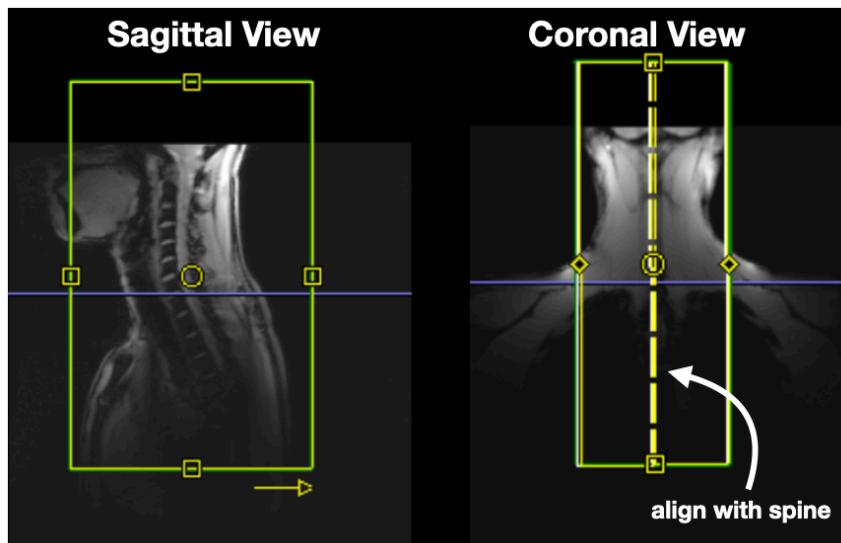

Figure 3. Positioning of FOV for turboFLASH scans.
- Position the Field of View (FOV) according to Figure 3. The center of the FOV should roughly correspond to where you put the isocentre. If the FOV in the FH direction for the imported protocol is too large for your coil, use the largest FOV possible in the FH direction for your coil.